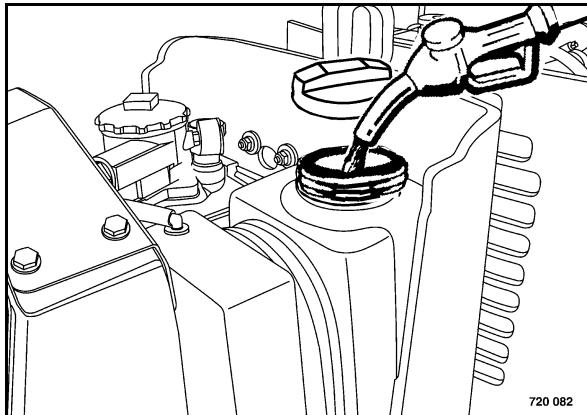

Fig. 91
- Clean the area around the filler cover, unscrew the filler cover (Fig. 91).